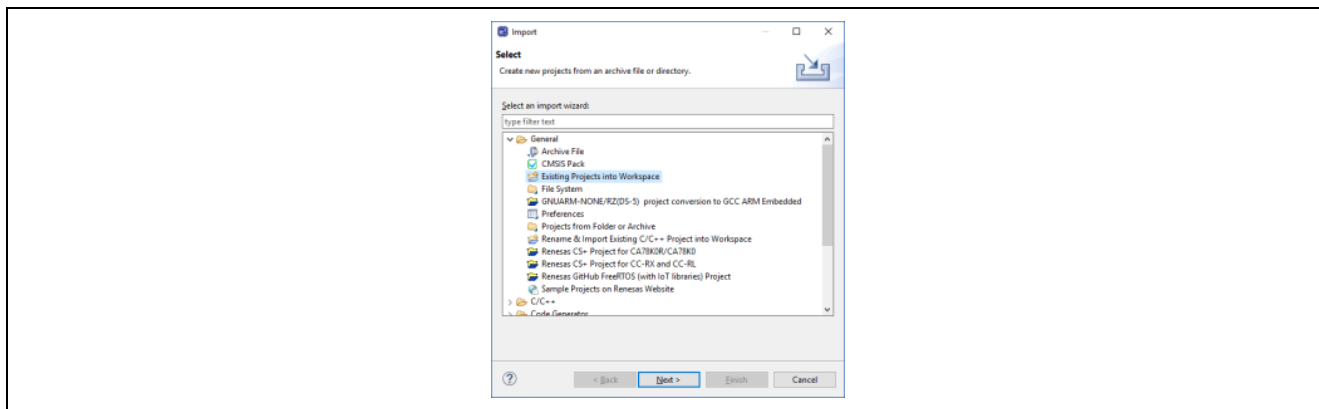

Figure 4-1. Import sample project (1)
4. Double-click **General** and select **Existing Projects into Workspace** as shown in Figure 4-1: